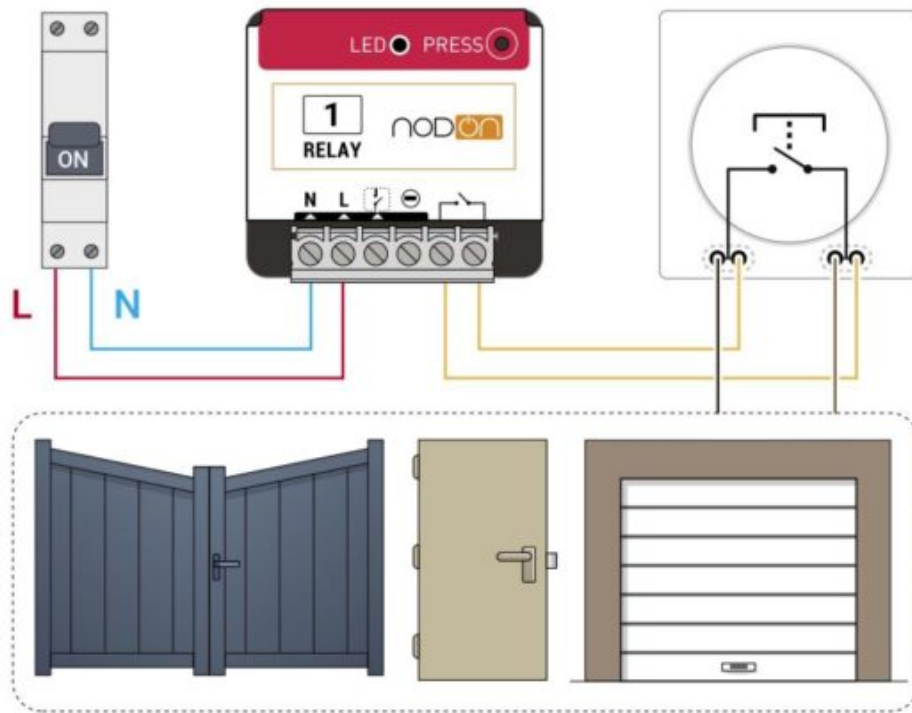

Figure 1
3. Wire the Multifunction Relay Switch, in parallel to the pushbutton following the diagram figure 1.